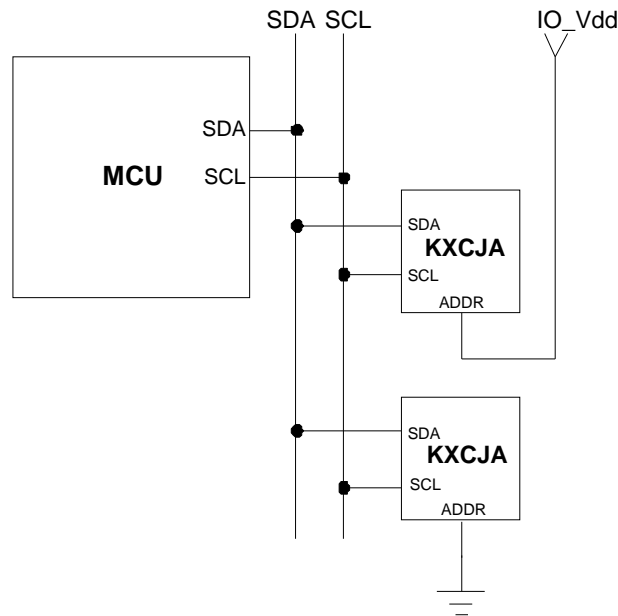

Figure 1. Multiple KXCJA I²C Connection
Transactions on the I²C bus begin after the Master transmits a start condition (S), which is defined as a high-to-low transition on the data line while the SCL line is held high. The bus is considered busy after this condition. The next byte of data transmitted after the start condition contains the Slave Address (SAD) in the seven MSBs (Most Significant Bits), and the LSB (Least Significant Bit) tells whether the Master will be receiving data '1' from the Slave or transmitting data '0' to the Slave. When a Slave Address is sent, each device on the bus compares the seven MSBs with its internally stored address. If they match, the device considers itself addressed by the Master. The KXCJA's Slave Address is comprised of a programmable part and a fixed part, which allows for connection of multiple KXCJA's to the same I²C bus. The Slave Address associated with the KXCJA is 000111X, where the programmable bit, X, is determined by the assignment of ADDR (pin 8) to GND or IO_Vdd. Figure 1 above shows how two KXCJA's would be implemented on an I²C bus.